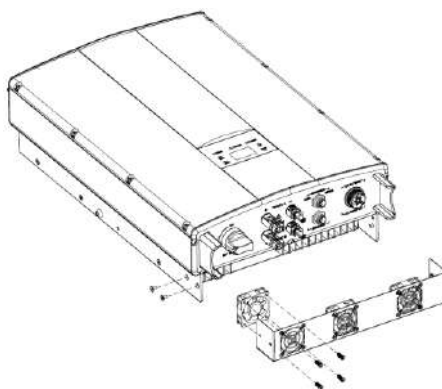

Fig 5.2 Disassemble the fan box
- (1) Disconnect AC breaker;
- (2) Turn the DC switch to "OFF" position;
- (3) Wait for at least 10 minutes;
- (4) Disconnect all the electrical wirings at the bottom of the inverter;
- (5) Lift up the inverter with the help of others and take the inverter off the wall;
- (6) Place the inverter on the operation platform;
- (7) Disassemble the fan box as shown in Fig 5.2;